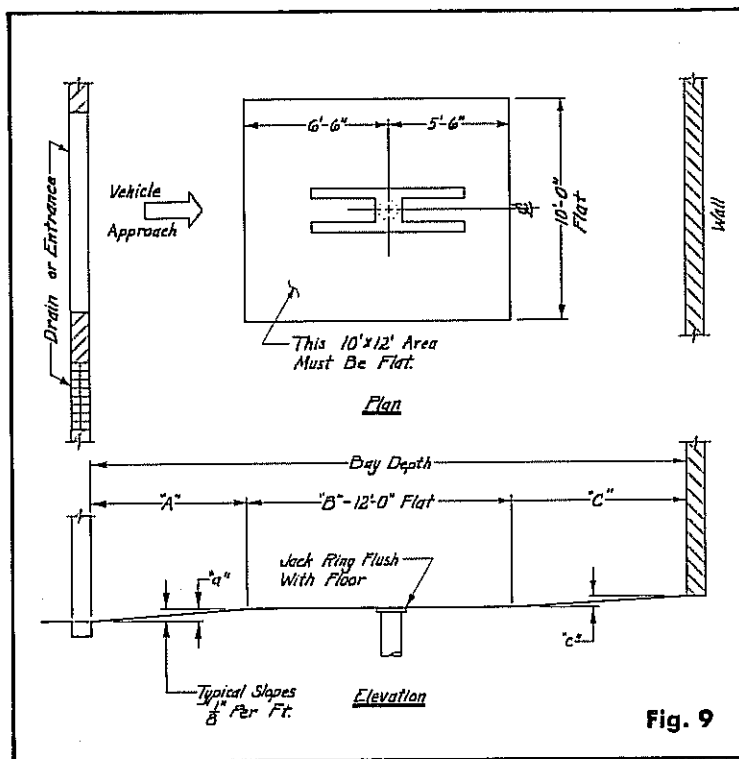

Fig. 9
1. Check architect's layout if available. Set the jack in the center of a clear space 10'-0" wide and 24'-0" front to back as shown in Figs. 1 and 9. The minimum ceiling clearance should be 12'-0" from floor level to lowest obstruction in lift area. Other bay lengths may be used, provided ample clearance is maintained at ends of lift. See Fig. 9.
32. Pour concrete floor being careful not to run concrete into non-rotator outer pipe, around packing gland, or cover tank fill plug. Trowel concrete around ring so that water will not accumulate on gland. See Fig. 9.